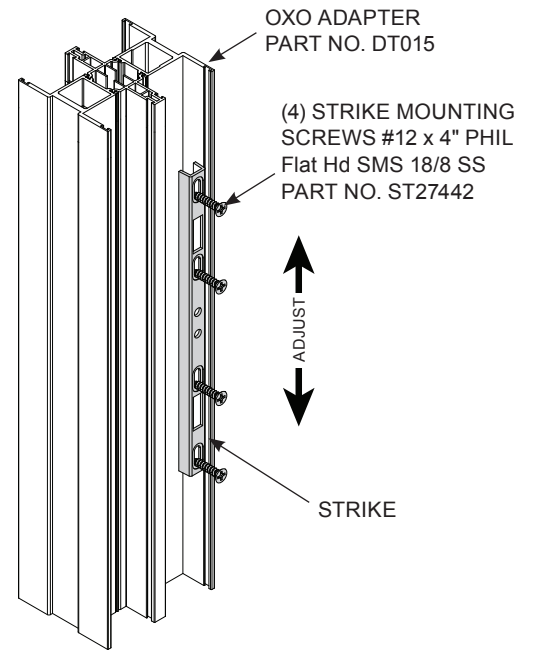

FIG. 51
6. Install strike to the OXO adapter. (FIG. 51)